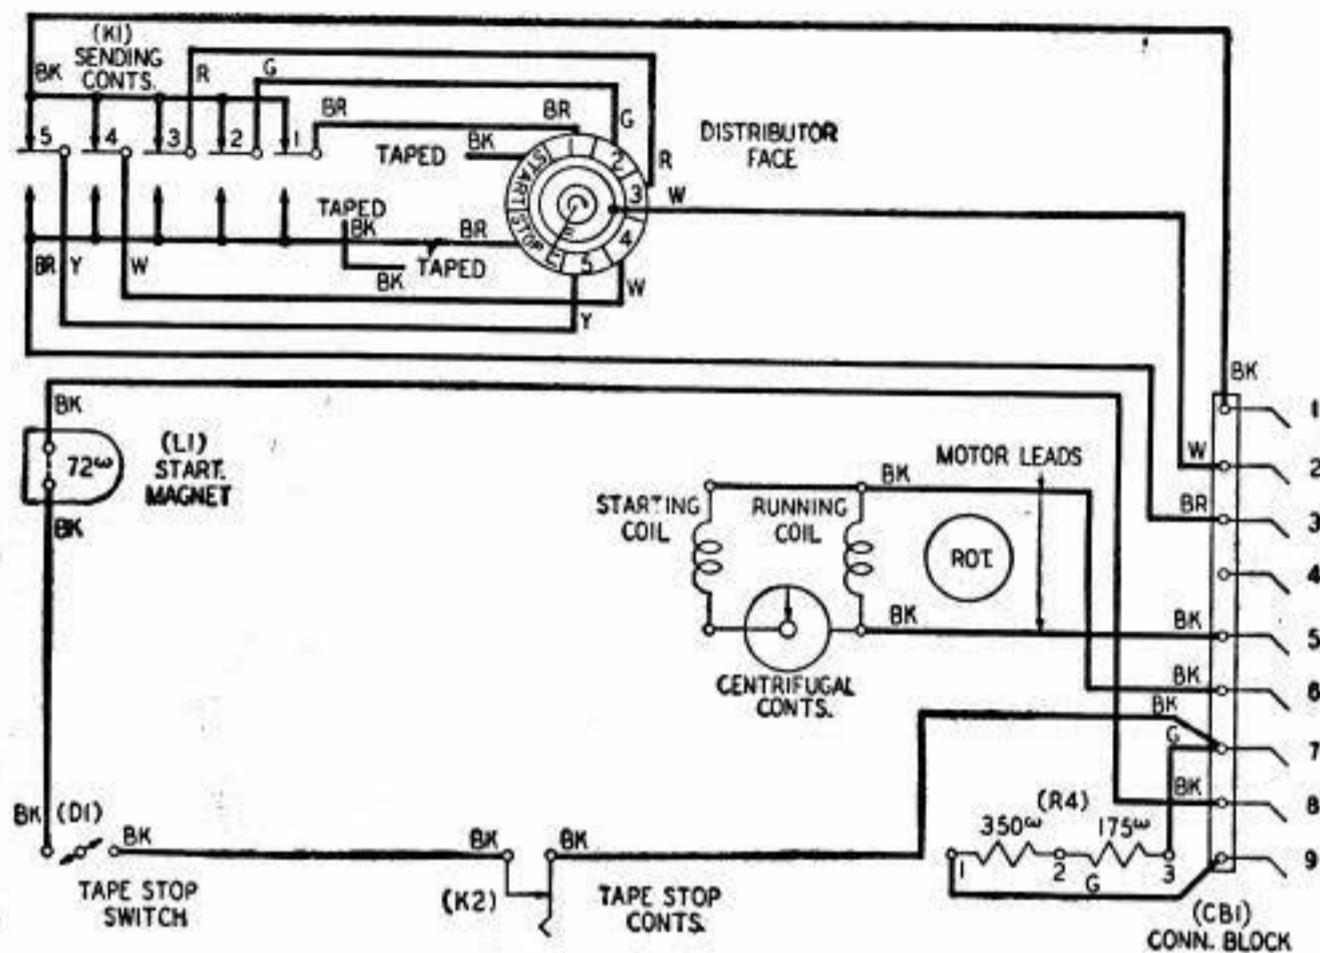
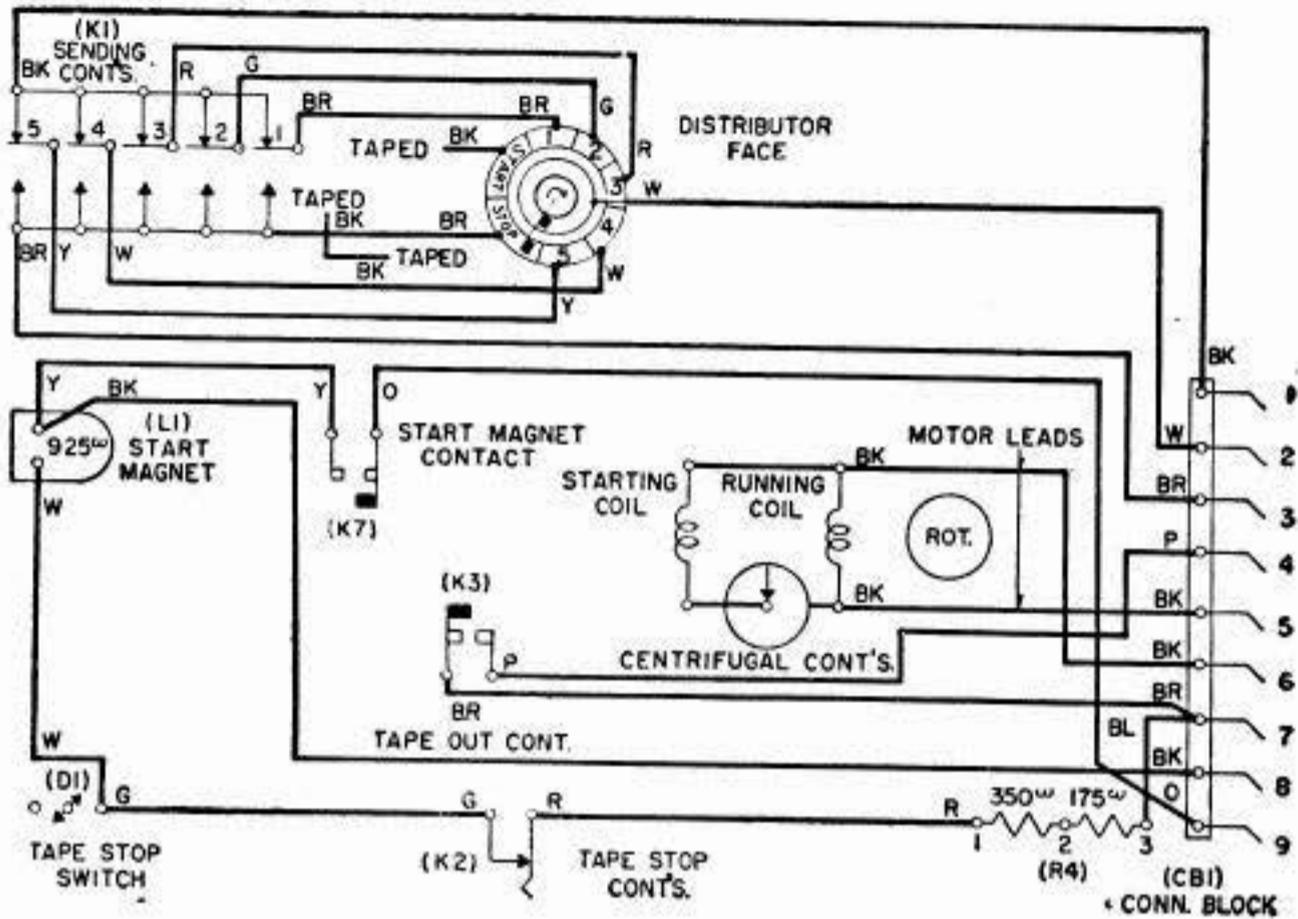

Fig. 1—No. 14-A, B, H, J, Y, AE and AU Transmitter-Distributors (Synchronous Motor)
Fig. 7—No. 14 BD and BE Transmitter-Distributors (Synchronous Motor)
1.02 The diagrams show the wiring of the machines as they are received from the factory. Figs. 1 to 5 are based on ESX-619352, Issue 7. Fig. 6 is based on ESR-631829, Issue 2. Figs. 7 and 8 are based upon BR-214638, Issue 1.
1.03 The wiring shown in Figs. 1, 2 and 3 for transmitter-distributors which are used at teletypewriter stations, covers the a-c clutch magnet which is adapted for use on either a-c or d-c power supply.
1.05 Fig. 6 shows the type of transmitter-distributor which is used at the switching center of an 81-type system. Figs. 7 and 8 are types of transmitter-distributors which are used at an outlying station of an 81-type system.